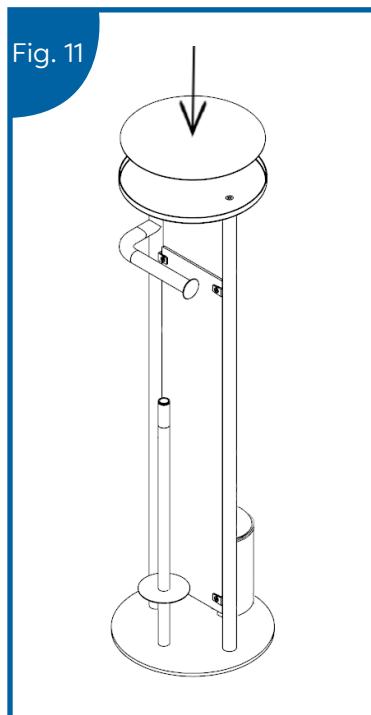

Fig. 11
11. Clean the top surface of the shelf ensuring it is completely dry and free of any dust or debris. Peel the protective backing off the non-slip pad. Ensure the adhesive pad is facing downwards then line it up with the shelf. Apply even pressure and ensure the adhesive pad has made full contact with the top surface of the shelf. (See fig.11)